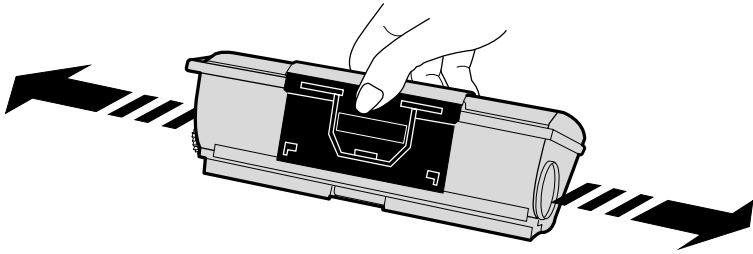

Fig. 2.10 *Distribute Toner in Cartridge*
7. Hold the toner cartridge as shown in figure 2.10, and shake it horizontally. This distributes toner evenly inside the cartridge and helps assure quality printing.